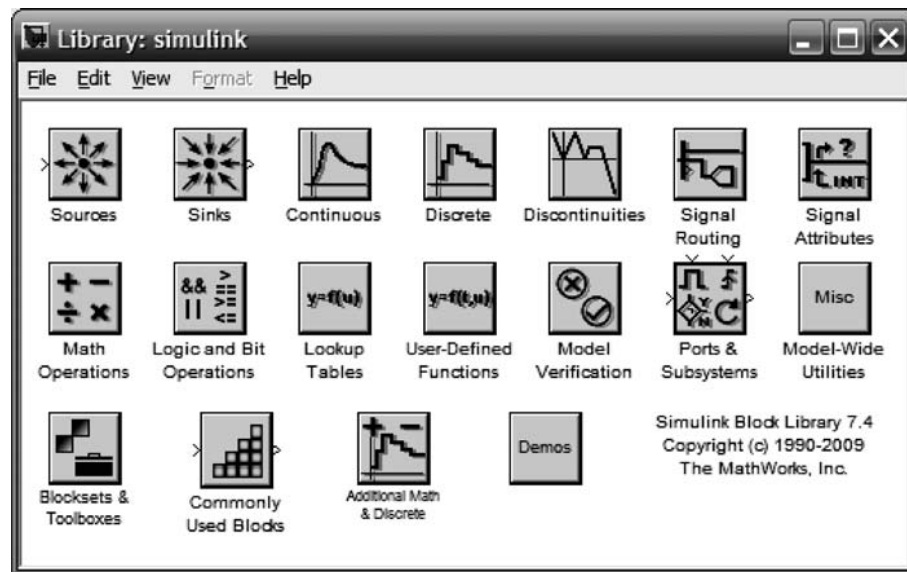

FIGURE C.4 Simulink Block Library window
Another approach to revealing the Simulink block library is to type *open_system('simulink.mdl')* in the **MATLAB Command Window**. The window shown in Figure C.4 is the result. Double-clicking any of the libraries in Figure C.4
3. **Assemble and label subsystems** Drag required subsystems (blocks) to your model window from the browser, such as those shown in Figure C.3. Also, you may access the blocks by double-clicking the libraries shown in Figure C.4. You can position, resize, and rename the blocks. To position, drag with the mouse; to resize, click on the subsystem and drag the handles; to rename, click on the existing name, select the existing text, and type the new name. The text can also be repositioned to the top of the block by holding the mouse down and dragging the text.
Alternatively, all blocks can be dragged from the **Library: simulink** window shown in Figure C.4. The **Mux** can be found under **Signal Routing** in the **Library: simulink** window.